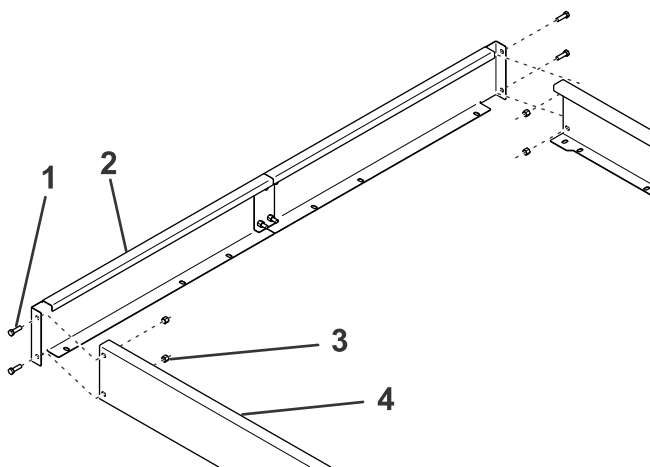

Figure 2
4. Secure an extension end to the 2 sideplates using 4 bolts and nuts (Figure 2).